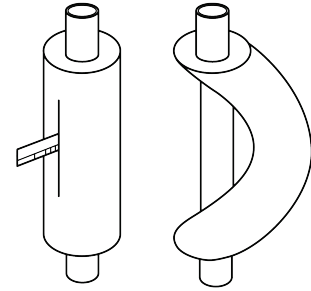

Fig.4.10
- (2) Do not bend the pipe over 90°.
- (3) If pipe is repeatedly bent or stretched, it will get hard and difficult to bend and stretch again. Therefore, do not bend or stretch the bend for over 3 times.
- (4) In case that direct bending will open cracks to the pipe, first use sharp cutter to cut the insulating layer, as shown in Fig.4.10. Do not bend the pipe until it is exposed. When bending is done, wrap the pipe with insulating layer and then secure it with adhesive tape.